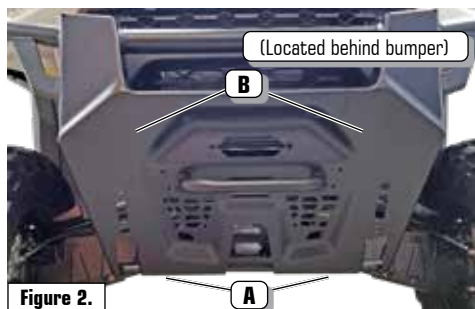

Figure 2.
3. Locate four bolt locations [A & B] on the front bumper as indicated in Figures 2 & 3. The exact bumper style may vary depending on vehicle model.
4. Next, remove (2) nuts and (2) bolts at locations [A] (lower bolts). Remove (2) nuts from the upper frame bolts at locations [B].